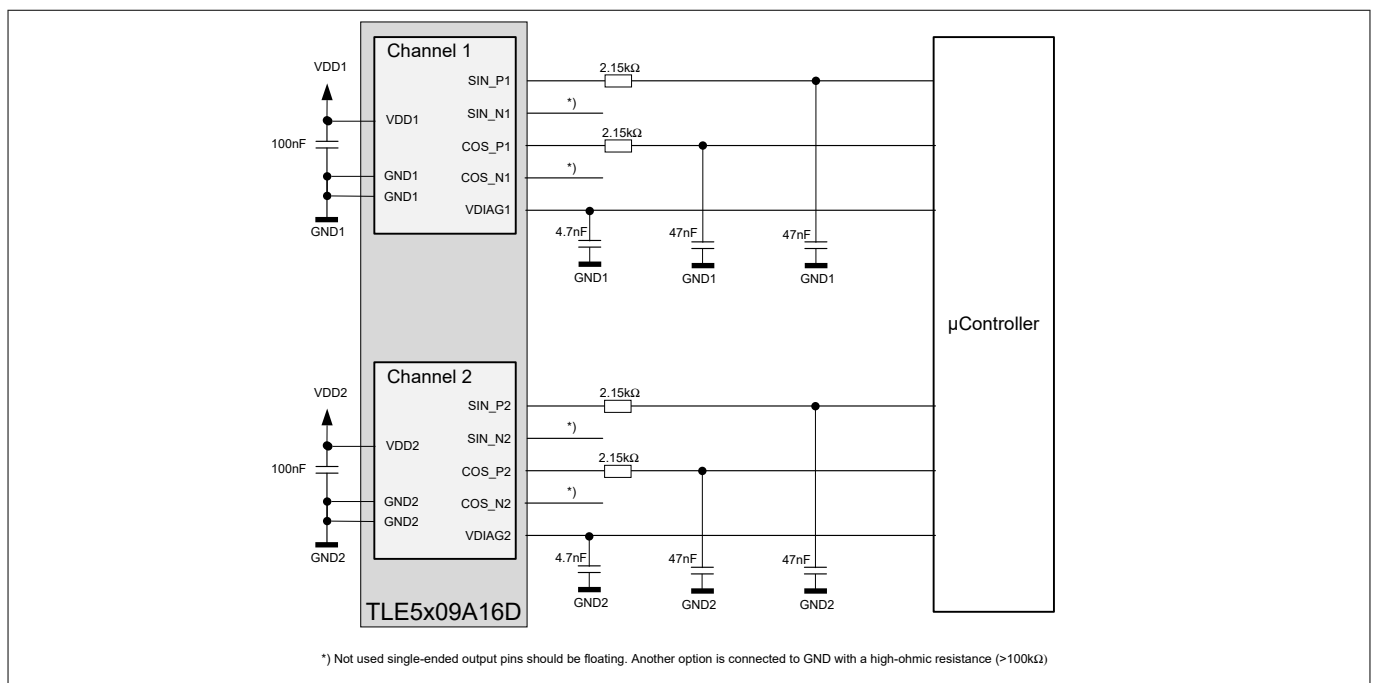
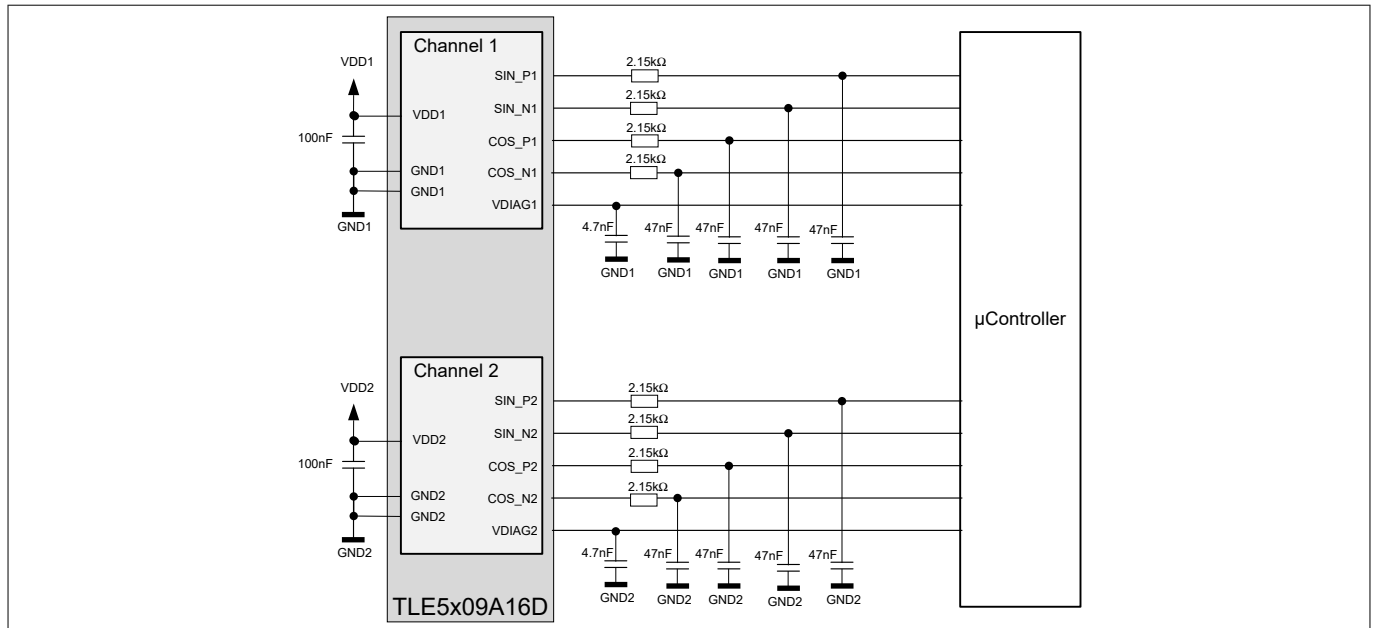

Figure 10 Application circuit for the TLE5x09A16(D) in single-ended output mode; positive output channels used
Figure 11 Application circuit for the TLE5x09A16(D) in differential output mode
The TLE5x09A16(D) sensor can be used in single-ended or differential output mode. Figure 10 shows a typical application circuit for the TLE5x09A16(D) in single-ended output mode using the positive output channels. For single-ended operation the positive or negative output channels can be used. Unused single-ended output pins should preferably be floating or connected to GND with a high-ohmic resistance ($> 100 \text{ k}\Omega$). The TLE5x09A16(D) has separate supply pins for the GMR sensor and the AMR sensor. The microcontroller comprises up to 10 A/D inputs used to receive the sensor output signals in differential output mode, illustrated in Figure 11. For reasons of EMC and output filtering, the following RC low pass arrangement is recommended. The RC low pass has to be adapted according to the applied rotation speed.¹⁾